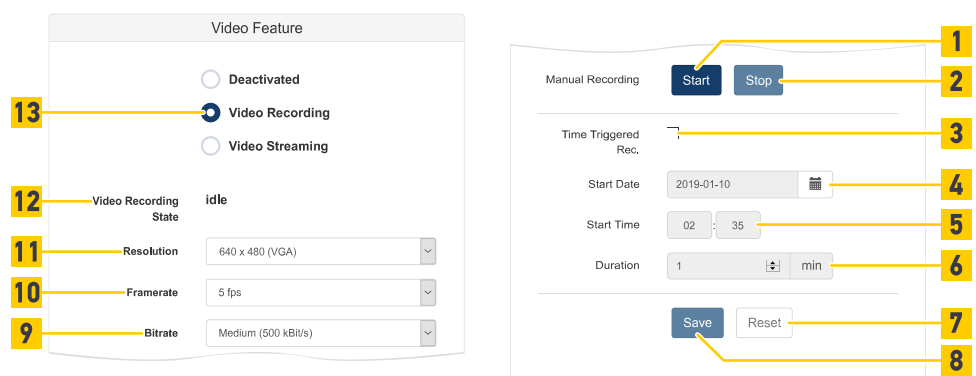

Fig. 109: Video Feature - Video Recording
- To activate Video recording select Video Recording (Fig. 109 /13) on.
- See the state of recording (Fig. 109 /12).
- Choose a Resolution (Fig. 109 /11) from the drop down list.
- Choose a Frame rate (Fig. 109 /10) from the drop down list.
- Choose a Bitrate (Fig. 109 /9) from the drop down list.
- To start a manual recording click the Start button (Fig. 109 /1).
- To end a manual recording click the Stop button (Fig. 109 /2).
- Set up a Start Date (Fig. 109 /4) and the Start Time (Fig. 109 /5) for automatic recording.
- Set up a Duration (Fig. 109 /6) in minutes. This duration sets the maximum time that the counter will record. The value must be between 1 and 1000 min.
- To go back to the last saved settings click the Reset button (Fig. 109 /7).
- To save all the settings in the device click the Save button (Fig. 109 /8).